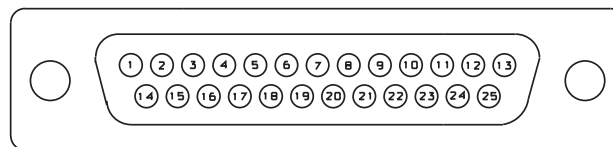

Figure 2-2: Wiring the 25-pin Remote Interface Connector
A) Connect two outputs from your station remote control system to the REMOTE INTERFACE connector on the rear panel of the 5500, according to the wiring diagram in Figure 2-2 on page 2-3.
Optically-isolated remote control connections are terminated in a type DB-25 male connector located on the rear panel. It is wired according to Figure 2-2. To select the desired function, apply a 5-12V AC or DC pulse between the appropriate REMOTE INTERFACE terminals. The (-) terminals can be connected together and then connected to ground at pin 17 to create a Remote Common. A current-limited +12VDC source is available on pin 25. If you use 48V, connect a 2kΩ ±10%, 2-watt carbon composition resistor in series with the Remote Common or the (+) terminal to provide current limiting.